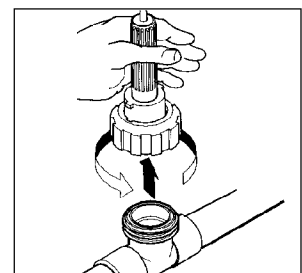

FIGURE 20
1. Close isolation valves and relieve pressure on the system by opening the sample valve. Remove sensor from flow assembly by unscrewing coupling ring. Pull sensor straight up with no side motion to prevent breakage (see fig. 20.) Inspect sensor, if deposits or fouling is present, clean sensor per instructions in Section 10, Maintenance, pg. 45.